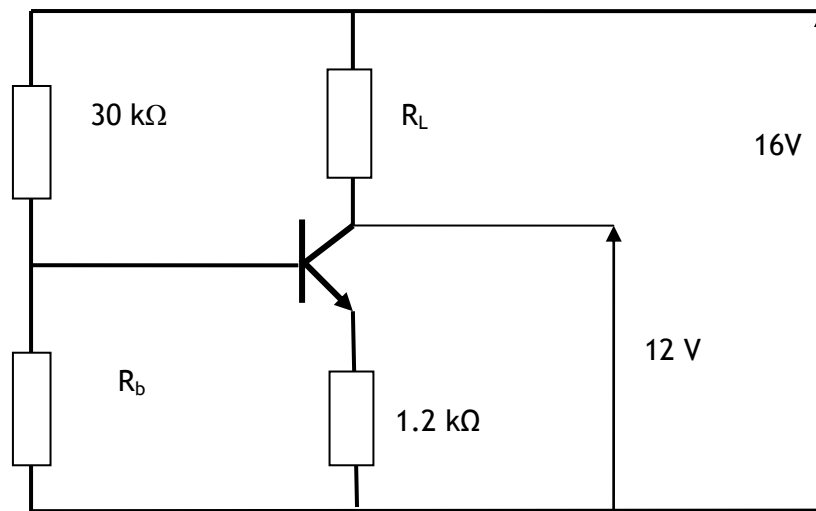

Fig Q3
- (a) the potential to which each of the capacitors has been charged; (6)
- (b) the energy stored in each capacitor at the end of the charging period; (4)
- (c) the final potential across the parallel combination of two capacitors. (6)
3. The NPN transistor shown in Fig Q3 has a volt drop between base and emitter of 0.4 V and the base current is small enough to be ignored. The volt drop across the emitter resistor is 3.6 V.